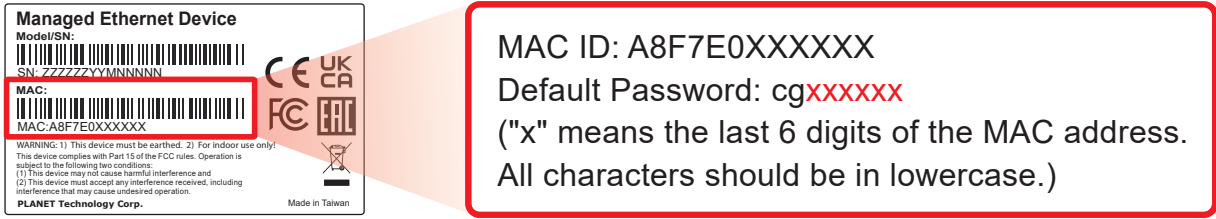

Figure 4-4: MAC ID Label
- 2b. When the following web page appears, please enter the default user name and password. Refer to **Figure 4-4** to determine your initial login password.